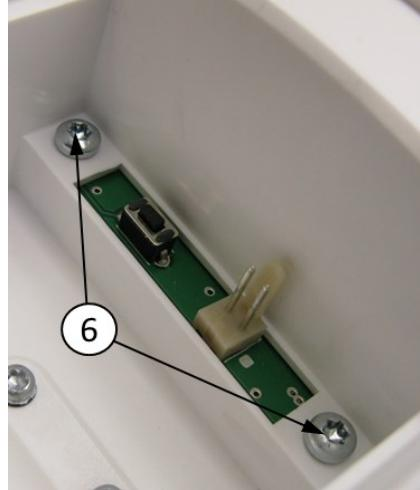

Fig. 59 Screws of the power supply board set – view from the battery side
2. Using the **TA-41** torque screwdriver with the **TA-42** bit, screw three **3x10 screws for plastic (5)** together with **2,7x10x1 polyamide washers (4)** and two **3x6 screws for plastic (6)** located in the battery chamber (**Fig. 59**).
3. Stick the **IDE tape (7)** to the **Two-sided foam tape (11)**.
4. Connect the **Speaker set (1)**, the **Battery controller (2)** and the **Buzzer (3)** to respective sockets on the power supply boards set.